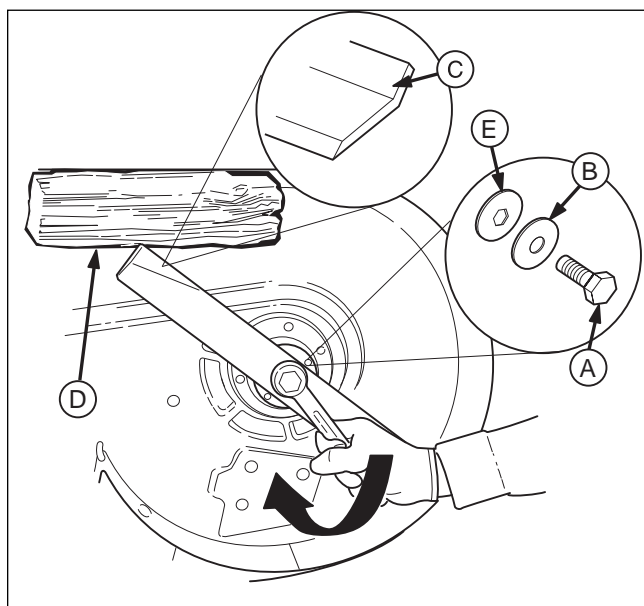

Figure 30. Tightening the Mower Blade for Installation
1. Reinstall each mower blade with the air lifts pointing up towards the mower deck as shown in Figure 30. Wedge a wooden block between the mower blade and the mower deck housing, and secure the mower blade with the mower blade mounting bolt, spring washer and spline washer (A, B & E, Figure 30) and torque to 45-55 ft. lbs. (61-75 Nm).